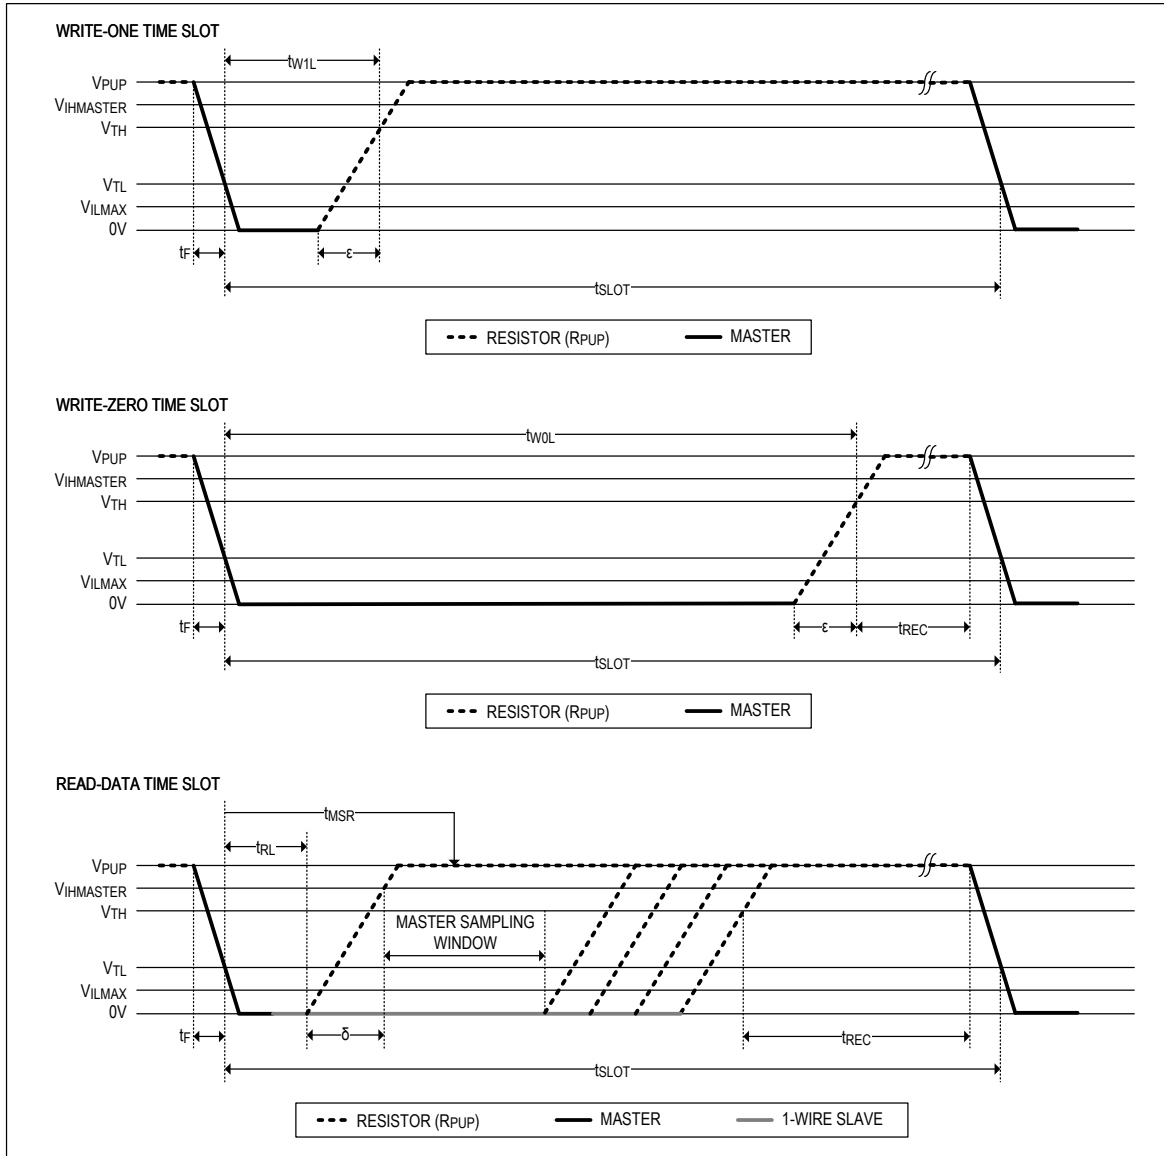

Figure 5. 1-Wire Read/Write Timing Diagrams
- Note 17:** ϵ in Figure 5 represents the time required for the pullup circuitry to pull the voltage on IO up from V_{IL} to V_{TH} .
- Note 18:** δ in Figure 5 represents the time required for the pullup circuitry to pull the voltage on IO up from V_{IL} to the input-high threshold of the bus master.
Data communication on the 1-Wire bus takes place in time slots that carry a single bit each. Write time slots transport data from the 1-Wire master to a connected slave. Read time slots transfer data from slave to the 1-Wire master. Figure 5 illustrates the definitions of the write and read time slots.